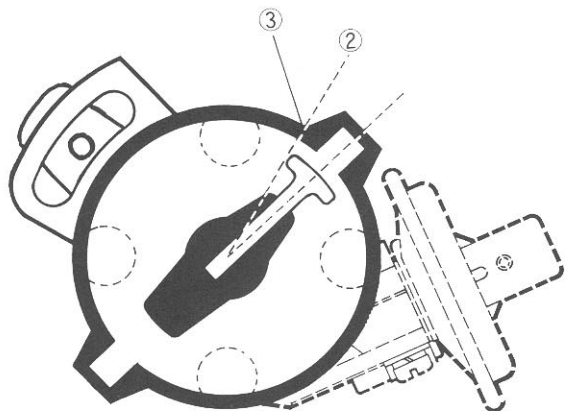

Fig. 3-145
The distributor takes its mounted position correctly only when it is inserted into the gear case under a specific condition. The condition is this: Turn over crankshaft to locate the piston at B.T.D.C. 10° (No. 1 Piston being compression stroke), and insert the distributor into the case, with end face ② of distributor rotor lined up with edge face ③ of distributor housing, as shown in Fig. 3-145.